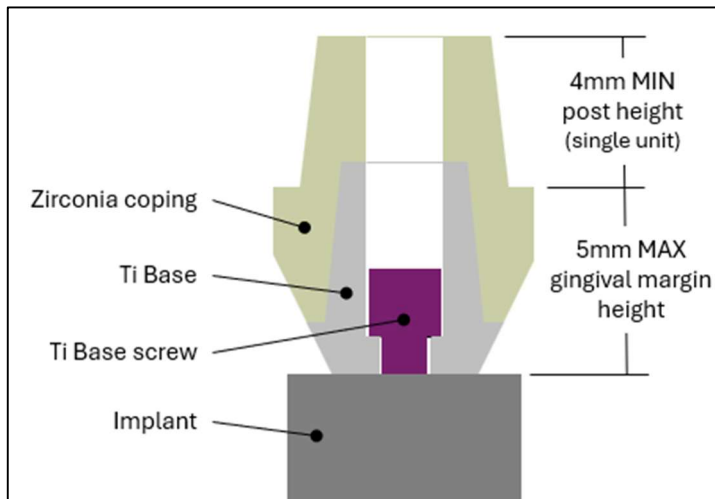

Figure 2 – Zirconia coping (superstructure) design limitations
- 5mm maximum gingival margin height. (refer to **Figure 2**)
- Ti Base abutments with a post height less than 4.0 mm are intended for multi-unit restorations only. (refer to **Figure 2**)